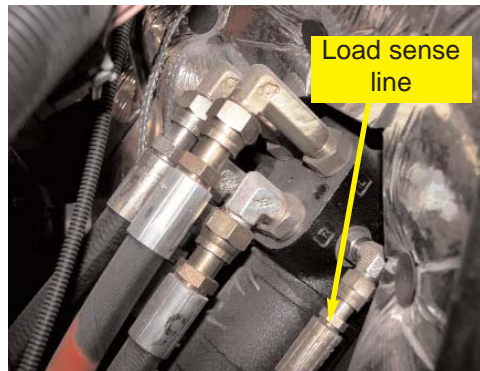

Figure 8b. Load sense line.
b. Locate the load sense line on the left side of the steering orbital. (Figure 8b.)